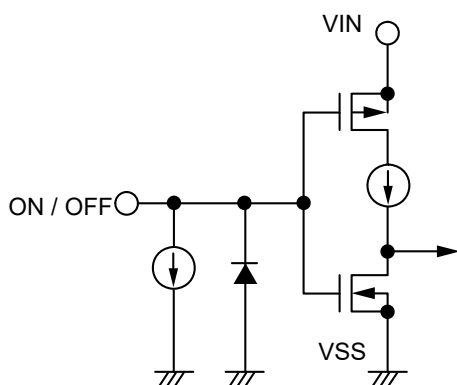
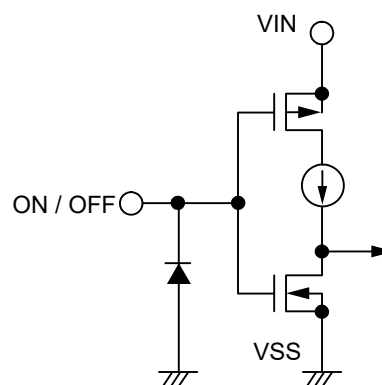

Figure 14 S-1318 Series A / C type
Figure 15 S-1318 Series B / D type
Note that the current consumption increases when a voltage of 0.25 V to $V_{IN} - 0.3$ V is applied to the ON / OFF pin. The ON / OFF pin is configured as shown in **Figure 14** and **Figure 15**.
*2. Note that the IC's current consumption increases as much as current flows into the constant current of 0.1 μ A typ. when the ON / OFF pin is connected to the VIN pin and the S-1318 Series A / C type is operating (refer to **Figure 14**).